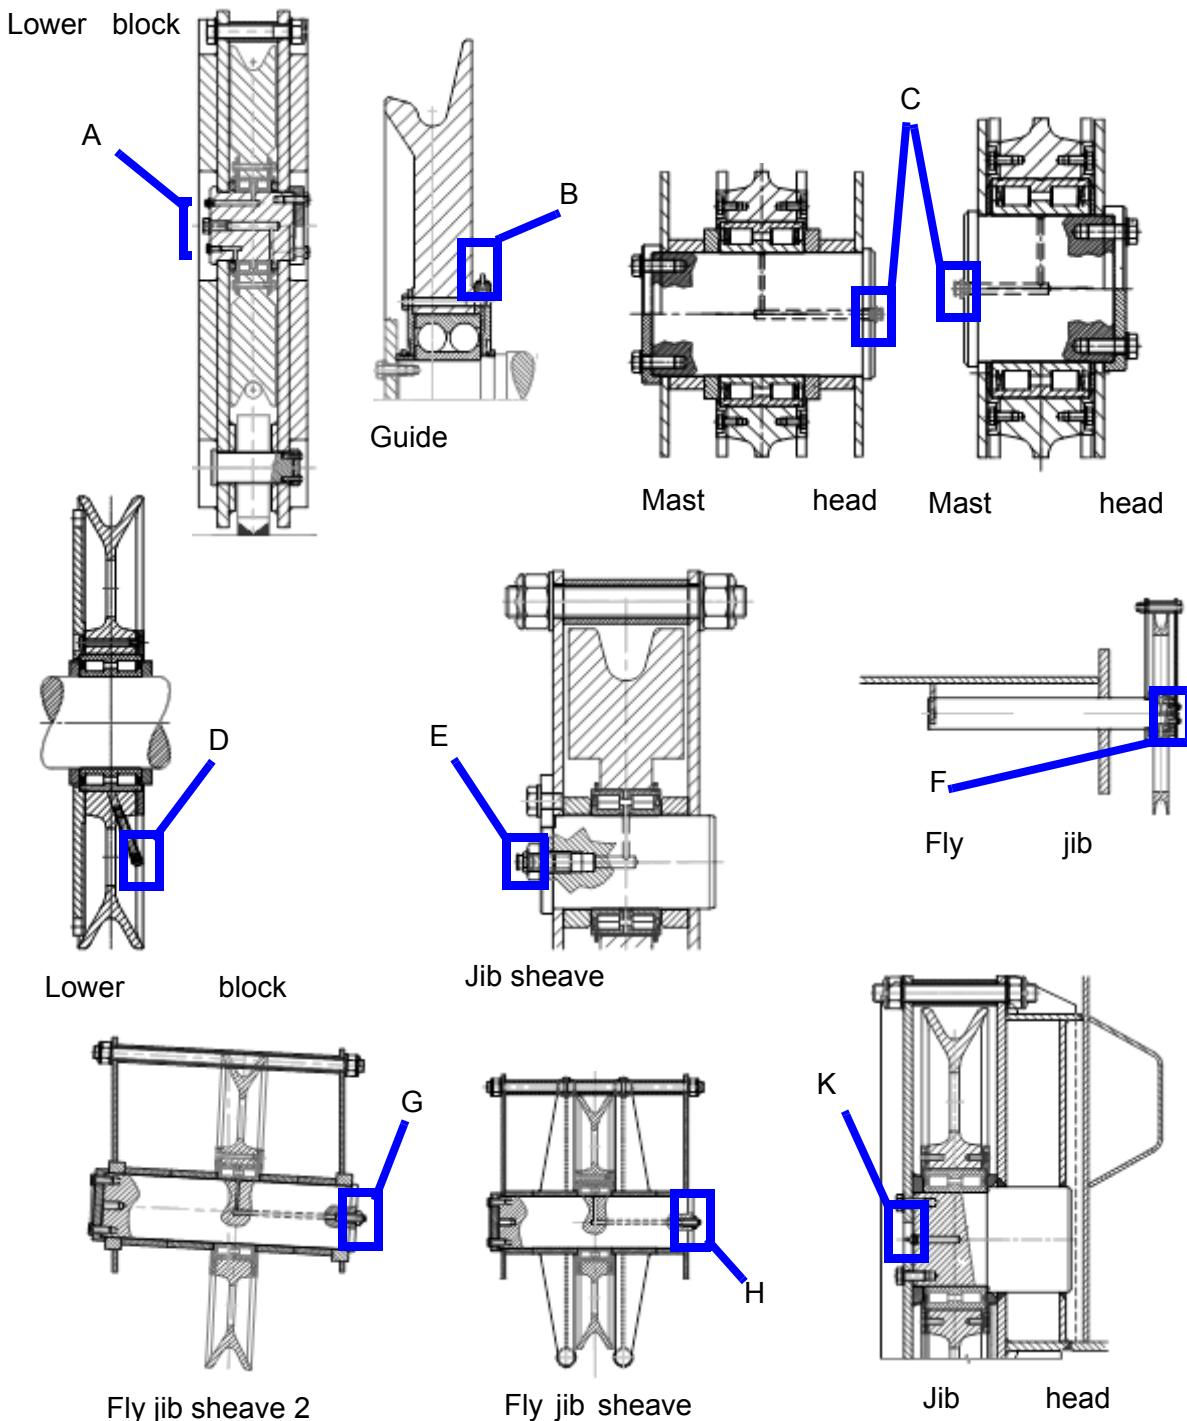

Figure 7-107: whip hoist sheaves - Greasing points
- Grease the sheaves according to the greasing schedule. (For the location of grease nipples see Figure 7-107).